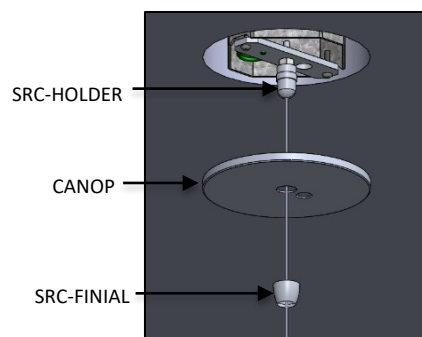

FIG. 22 – CANOPY INSTALLATION
5. Pass the remaining Aircraft cable through the canopy and SRC-FINIAL. Loosely secure CANOPY to the ceiling by threading the SRC-FINIAL to the SRC-HOLDER as shown below in FIG. 22.